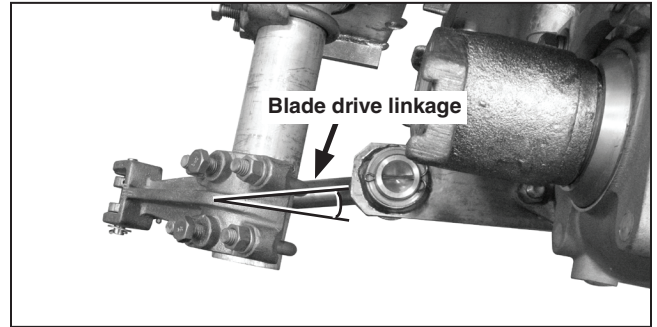
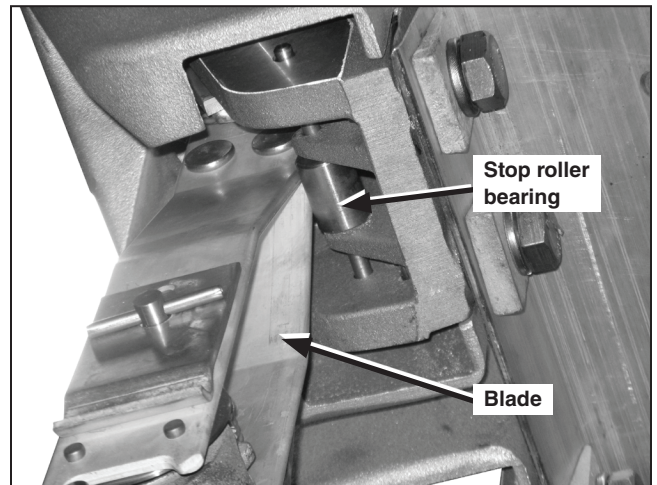

Figure 14. The blade drive linkage in a 5 degree overtoggle.
Figure 15. The blade drive linkage in the 5 degree overtoggle position. The blade should be in contact with the roller bearing.
- STEP 1.** With the power train still in its fully closed position, make sure that, with the blade drive linkage assembly of each phase in a positive toggle condition—approximately 5 degrees over center—the blade contact assembly is driven firmly against its stop roller. See Figure 14 and Figure 15.